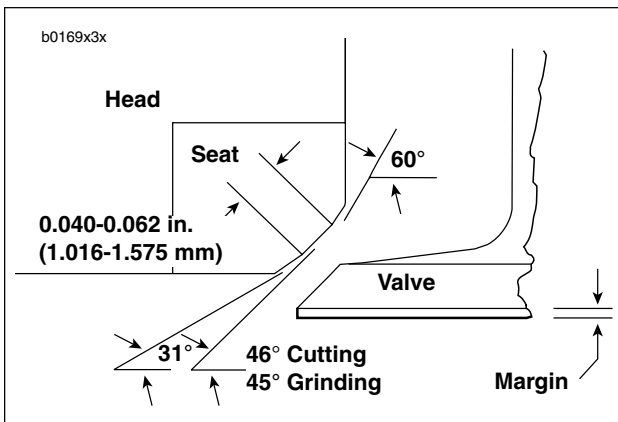
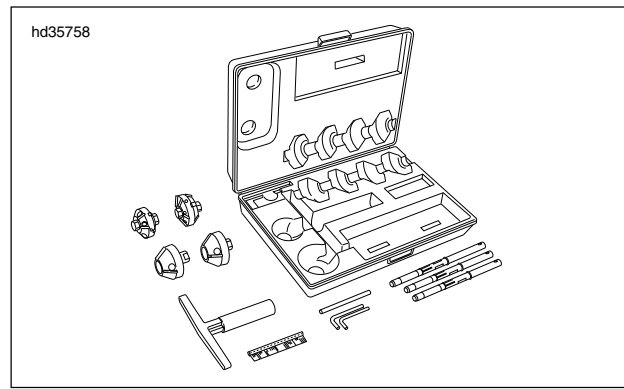

Figure 3-21. Valve Seat Angles
Figure 3-22. Valve Seat Cutter
The correct 3-angle valve seat angles are shown in Figure 3-21. Use NEWAY VALVE SEAT CUTTER SET (Part No. HD-35758-A) to cut the seats. See Figure 3-22. Always grind valves before cutting seats.
3. See Figure 3-21. Check the contact pattern on valve face. It should be 0.040-0.062 in. (1.016-1.575 mm) wide, and its center should be positioned 2/3 of the way toward the outside edge of face.